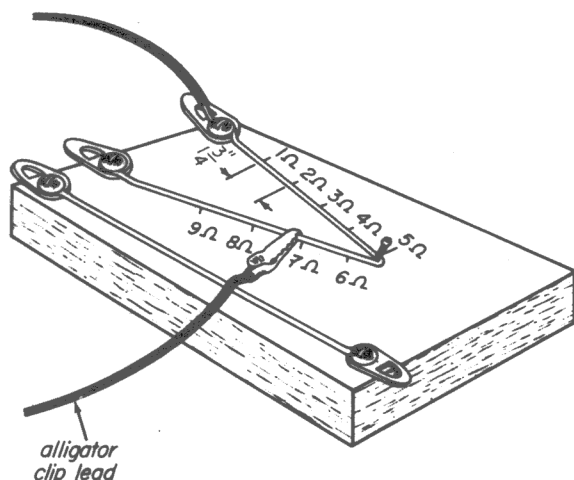

Fig. 26-2
Step 4. Starting at one of the wood screws, place a mark every $1\frac{3}{4}$ inches along the wire, as shown in Fig. 26-2. (If you have a rule calibrated in 32nds of an inch, and you want to be very accurate, place your marks at $1\frac{25}{32}$ inch intervals.)
Step 5. The #30 gauge nichrome wire that you have received has a resistance of 6.75 ohms per foot, or 1 ohm for $1\frac{3}{4}$ inches. Label the marks that you have made, starting with 1 ohm, 2 ohms, etc., up to 9 ohms. Then divide each interval in half, so that you have a calibrated scale as shown in Fig. 26-2.